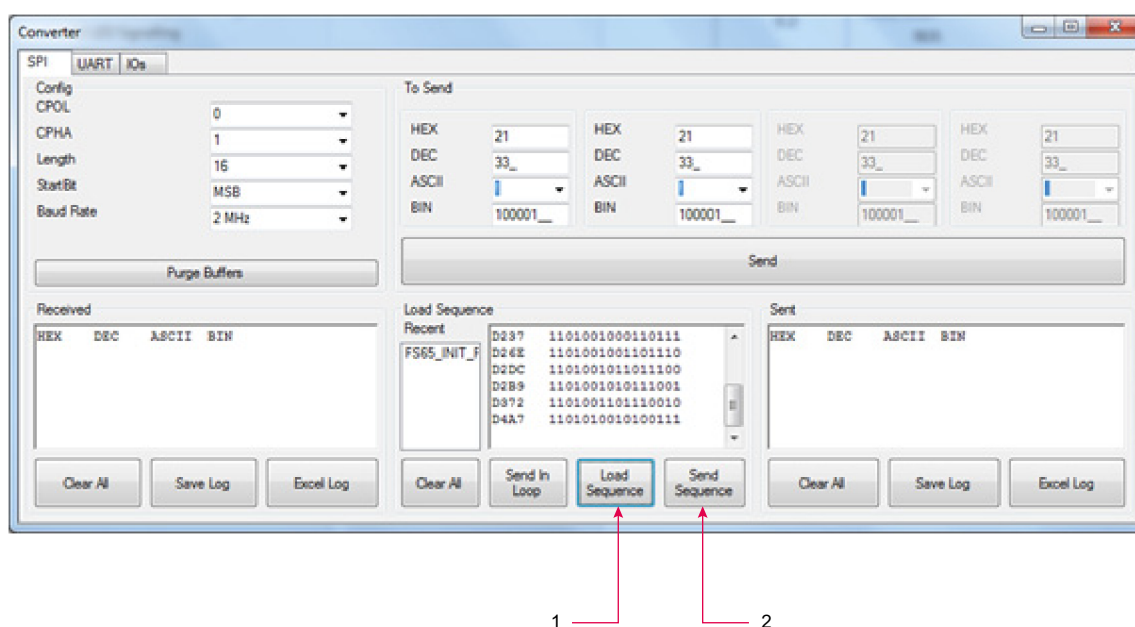

Figure 20. Loading the register configuration example file
5. Launch FlexGUI. When FlexGUI opens, click the **load sequence** button to load the register configuration file (see Figure 20).
6. Send the register configuration file to the FS45xx/FS65xx by clicking the **send sequence** button (see Figure 20).
2. To use the register configuration file, open FlexGUI, then load the register configuration file and send it to the evaluation board (see Figure 20).